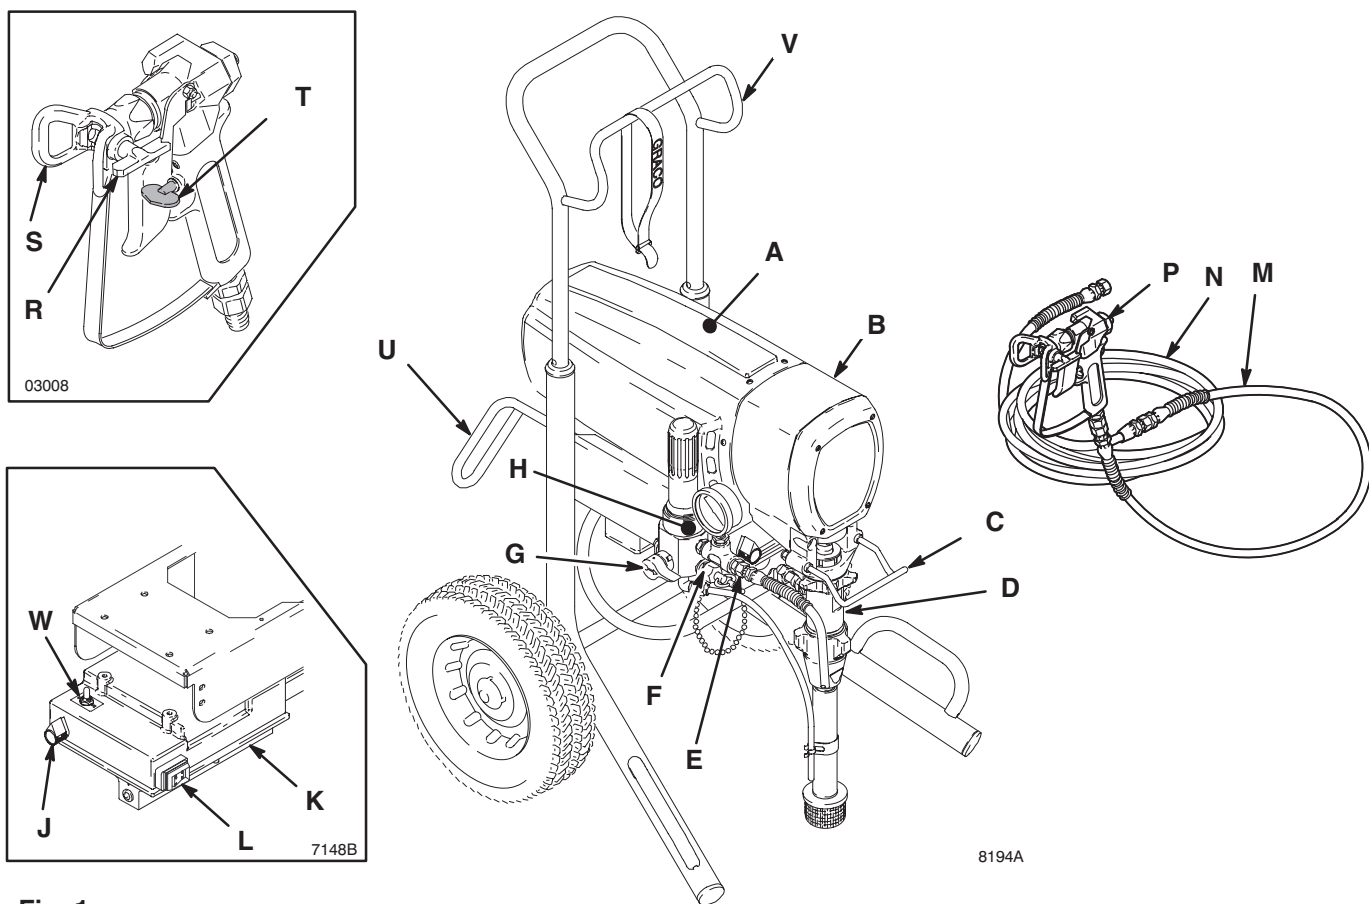

Fig. 1
- Do not install shutoff device between sprayer and gun. See Fig. 1.
**NOTE:** See Fig. 1, except where noted.